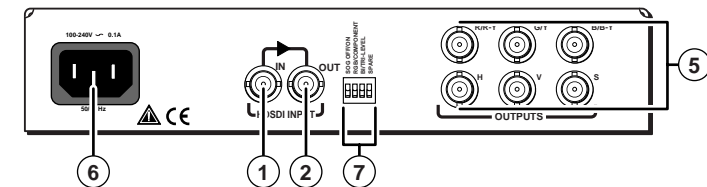

**Figure 2 — Rack mounting the SDI-AVR 100**
1. For optional rack mounting, mount the converter on one side of a 19" 1U Universal Rack Shelf (Extron part #60-190-01) (figure 2).